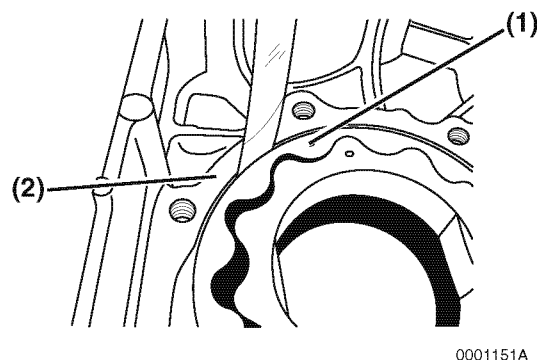

Figure 9-8
- Determine the outside clearance of the outer rotor. Insert a feeler gauge between the outer rotor (**Figure 9-8, (1)**) and the gear case oil pump cavity (**Figure 9-8, (2)**).